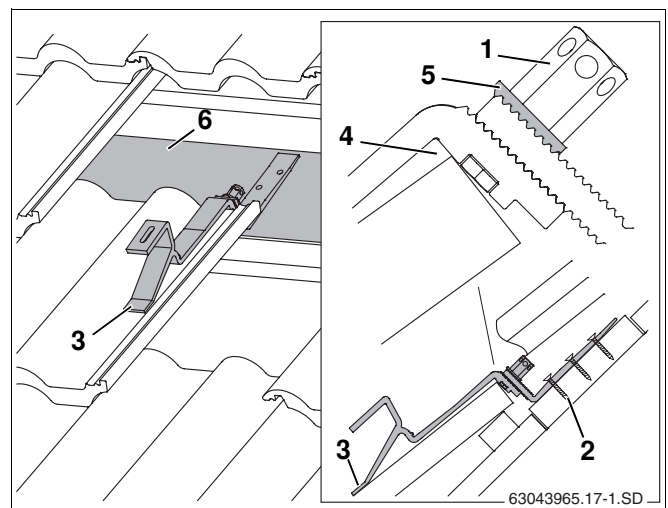

Fig. 14 Roof hook fitted (some tiles have been removed for a better view)
- Lay front brace onto the tile so that when subjected to a load it lies in a tile trough (Fig. 14, **Item 3**).
The roof hook must have some clearance along the upper edge of the tile (Fig. 14, **Item 4**). Adjust the top of the tile if necessary.
- Push the lower part of the roof hook down until it lies on the joist or on the boards (Fig. 14, **Item 6**).
The serated washer (Fig. 14, **Item 5**) must grip the teeth on the lower part of the roof hook.
- Tighten the long hexagon nut (Fig. 14, **Item 1**). To do this, insert the size 5 Allen key into the hole in the hexagon nut and turn.
- Using suitable screws, fasten the lower part of the roof hook into the first (Fig. 14, **Item 2**) and second holes (at least) of the joist.